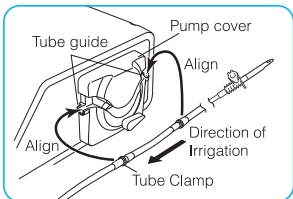

Fig.2
•Align the Tube Clamps of the Irrigation Tube with the tube guides and set the Tube. (Fig.2)